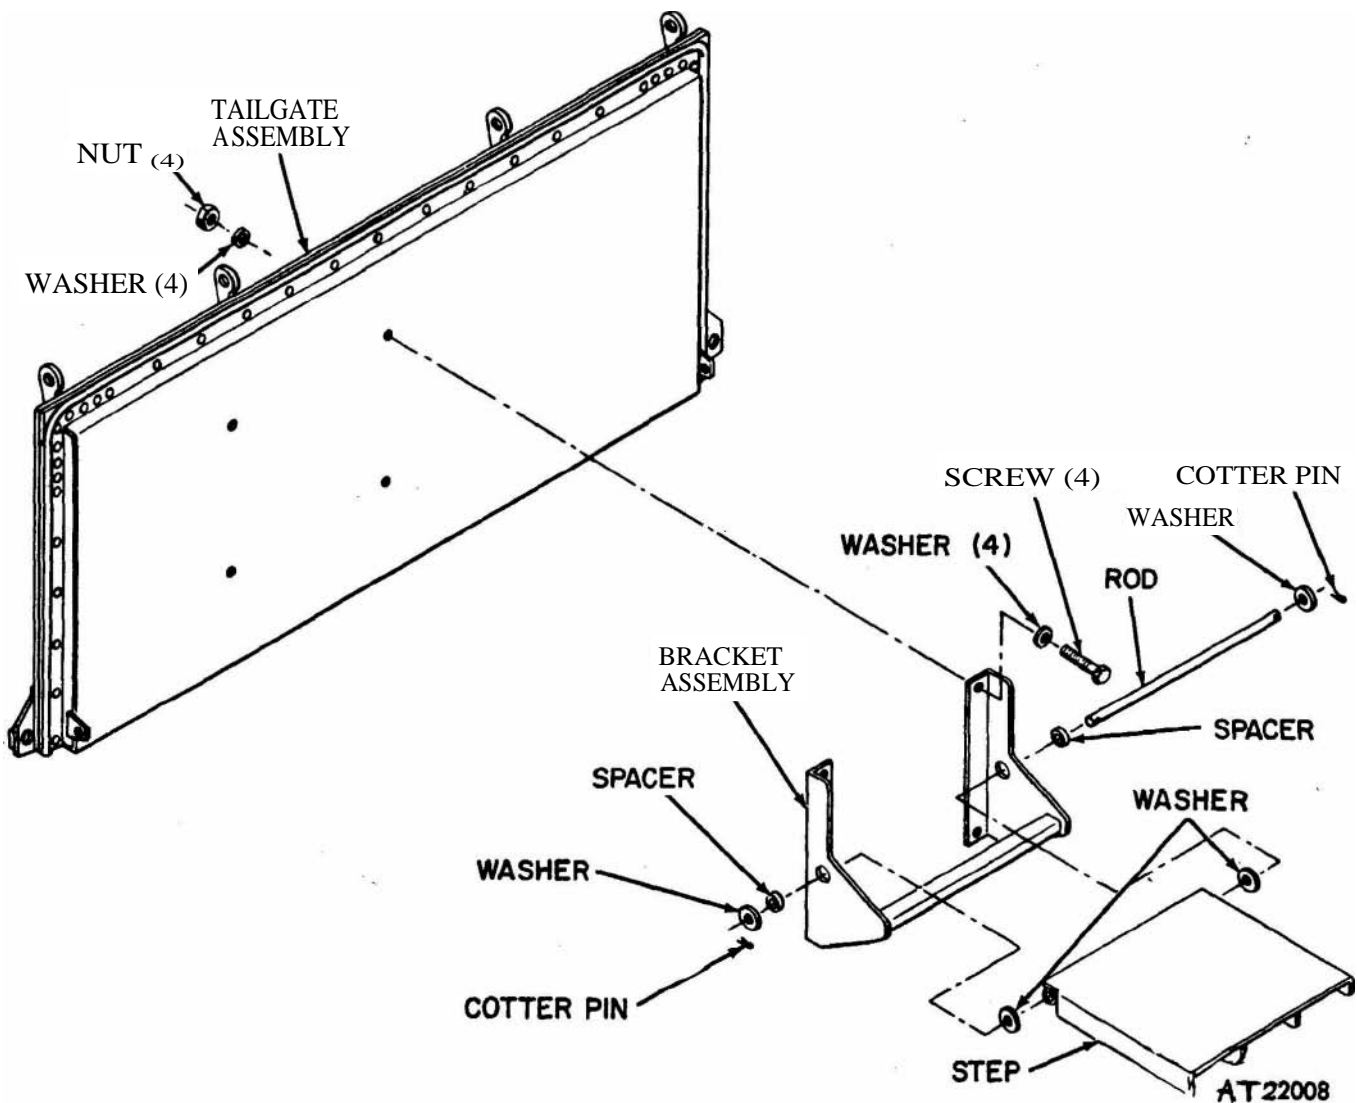

Figure 2-356. M792 ambulance tailgate step, removal and installation.
(1) Open and secure tailgate in horizontal position.
(2) Remove cotter pins, washers, and spacers securing rod. Slide rod from brackets and step and remove step (fig 2-356).
(3) Remove screws, washers, and nuts securing bracket assembly to tailgate.
(1) Position and secure step bracket assembly to tailgate with four screws, eight washers, and four nuts (fig 2-356).
(2) Position step and two washers between brackets. Slide rod through brackets and seat. Install two spacers and washers on rod. *Secure assembly with two cotter pins.*
(3) Raise tailgate and secure.